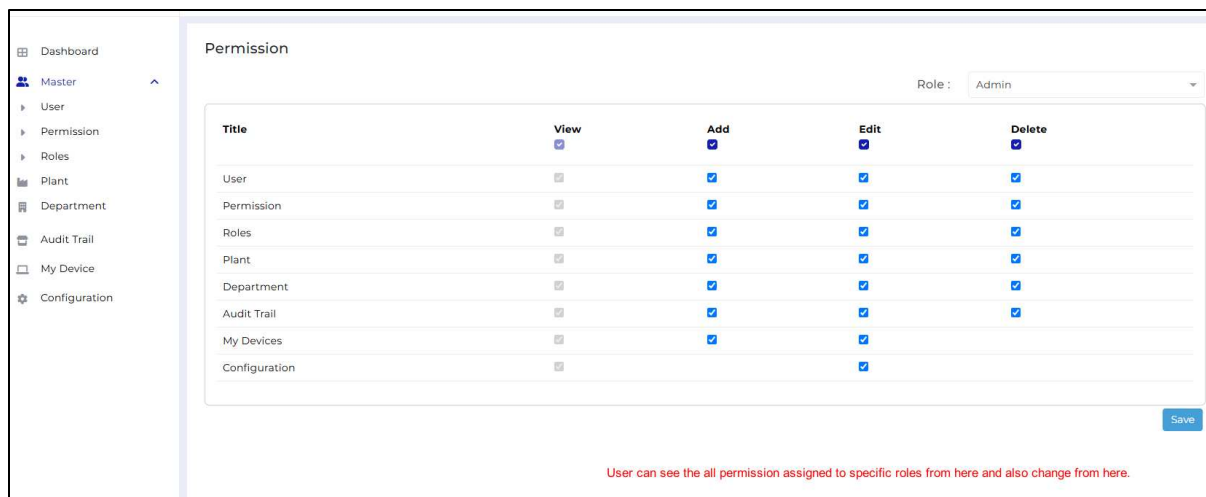

Figure 41 Assign Permissions to Roles in the EMS Cloud Application
- Assign/edit the permission for each role using permission tab as shown in the figure 41.